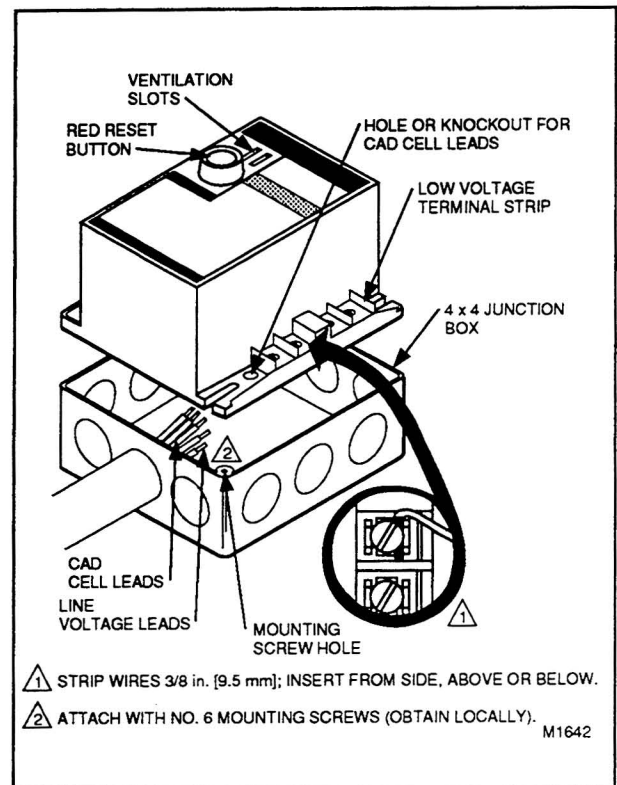

FIG. 4—MOUNTING THE R8184G1427.
**MOUNTING:** Mount on a standard 4 x 4 in. junction box; some R4184D and R8184G,N models mount directly on burner. R8184G1427 must be mounted with device label facing upward. Refer to Fig. 4.